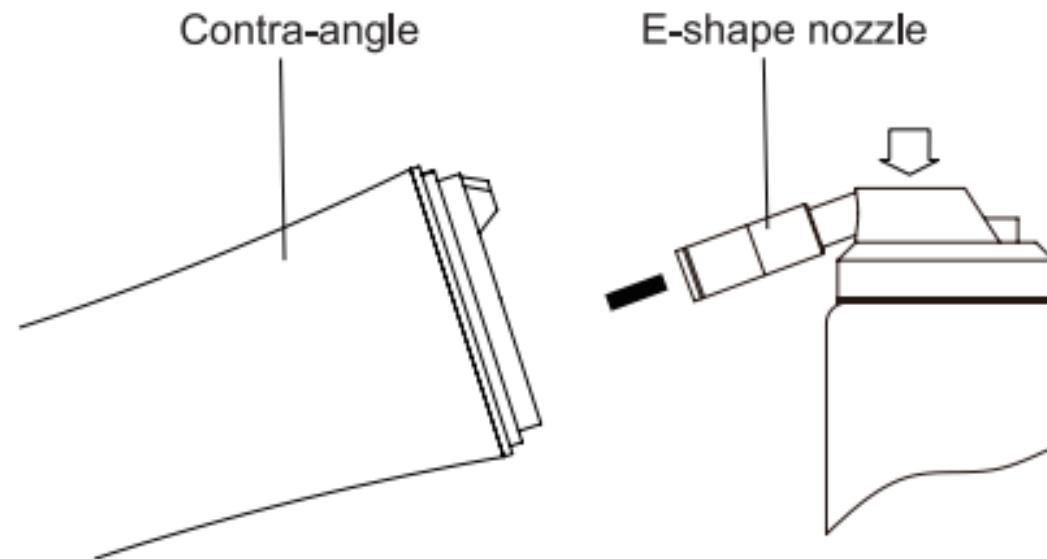

Fig. 6
3.2.3 Insert the nozzle into the tail of the contra-angle. Put a tissue on the head and hold the handpiece to spray oil to it for 2-3 seconds. Check whether the tissue is clean. If it is clean, the contra-angle handpiece can be autoclaved. If not, spray again until the tissue is clean. (Fig. 6)